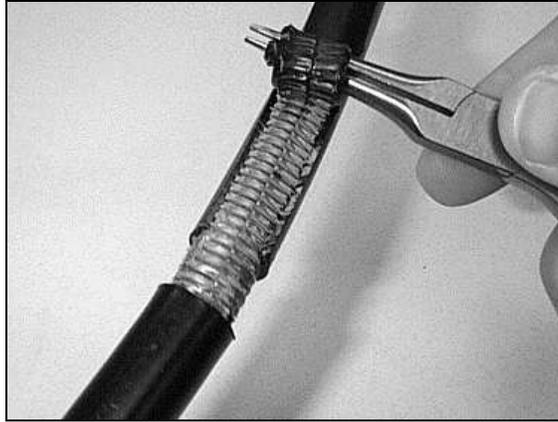

Figure 27 – Expose the armor overlap.
6.8 Use a pair of pliers to remove the strip of outer sheath and expose the armor overlap (Figure 27).